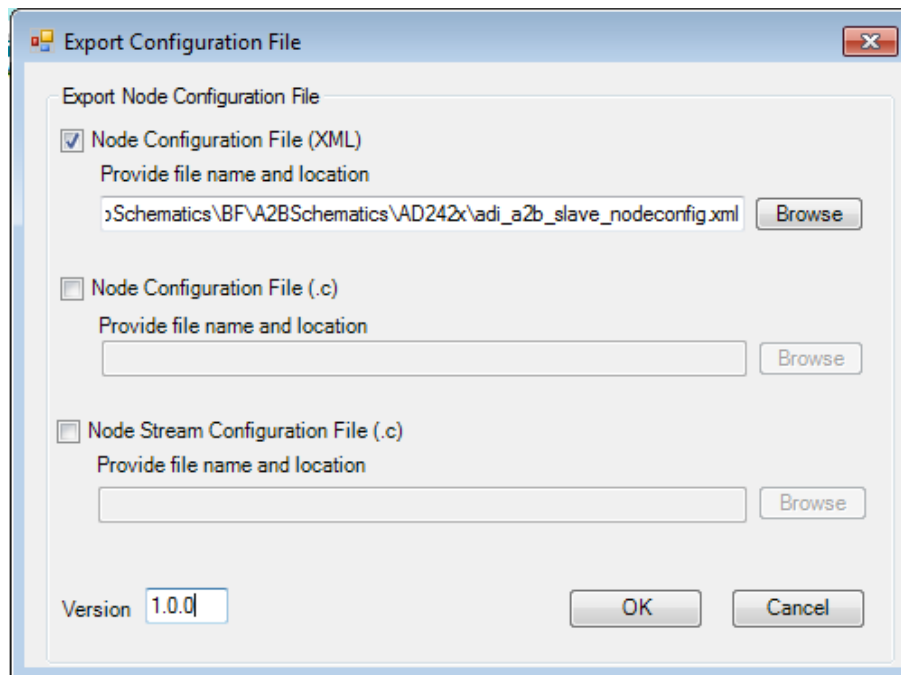

Figure 45: NCF export window
3. Check the '*Node Configuration File (XML)*' option and provide the file name & location in the Dialog box as shown in Figure 45. Enter the version number for the exported file and then press OK.